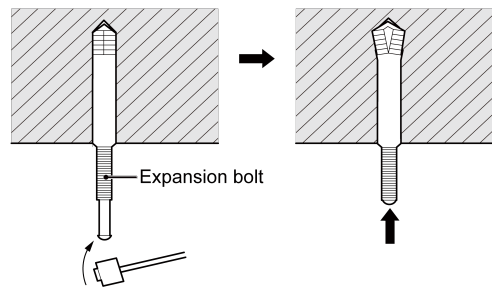

Fig.4.1.4
2)Insert the M10 expansion bolt into the hole and then knock the nail into the bolt, as shown in Fig.4.1.4.